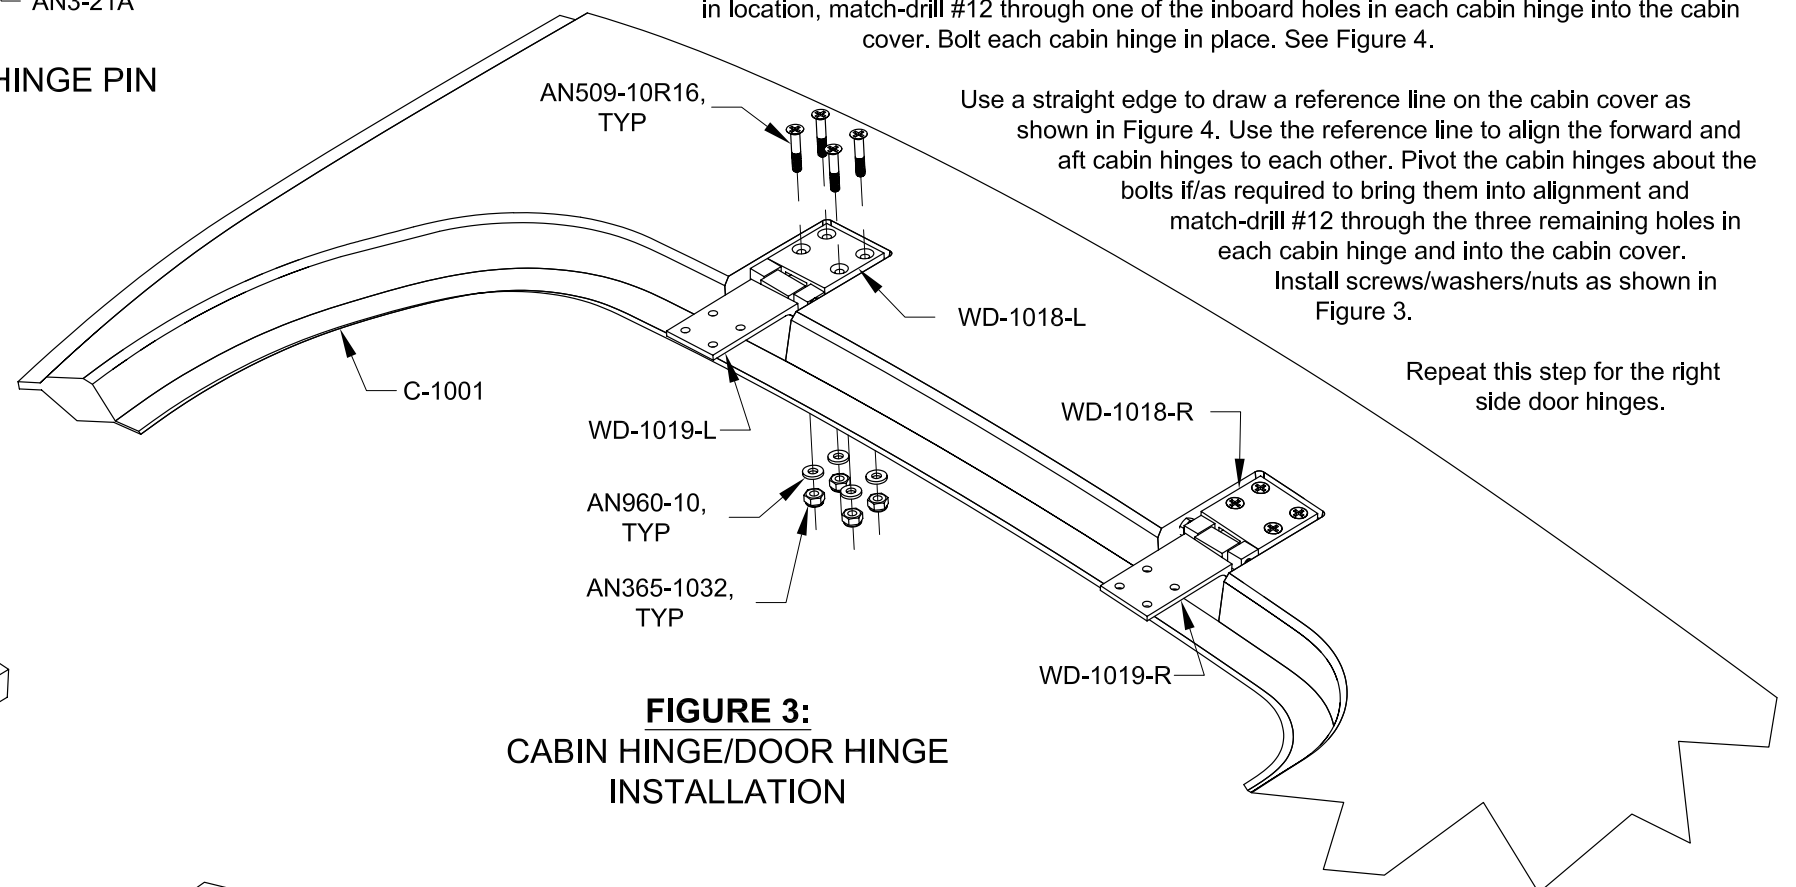
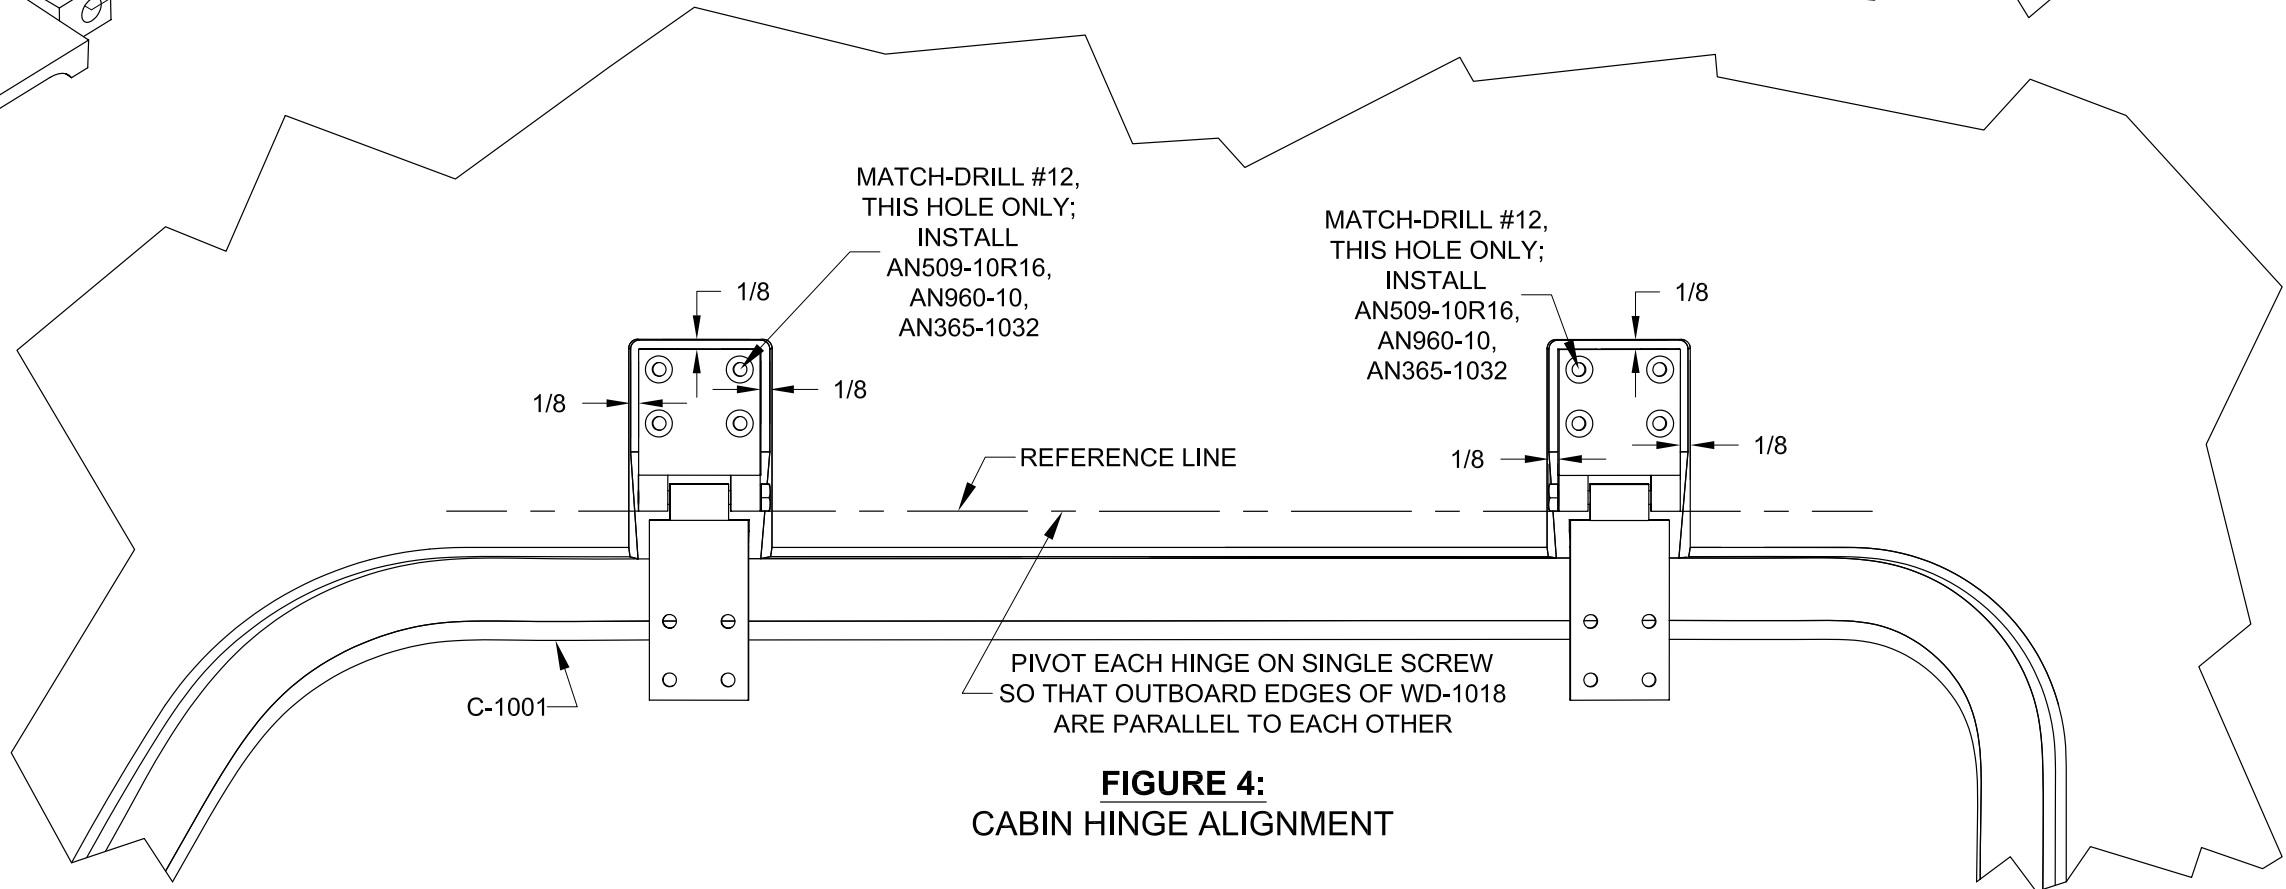

FIGURE 3: CABIN HINGE/DOOR HINGE INSTALLATION
FIGURE 4: CABIN HINGE ALIGNMENT
Step 3: Position the WD-1018-L Cabin Hinge/WD-1019-L Door Hinge subassembly in the forward pocket in the C-1001 Cabin Cover. Position the WD-1018-R Cabin Hinge/WD-1019-R Door Hinge subassembly in the aft pocket in the cabin cover. See Figure 3.
The WD-1018-L and -R Cabin Hinges are located on the cabin cover as shown in Figures 3 and 4. Use three .125 thick scrap aluminum spacers to locate each cabin hinge to the "walls" of the hinge pockets. With the cabin hinges held in location, match-drill #12 through one of the inboard holes in each cabin hinge into the cabin cover. Bolt each cabin hinge in place. See Figure 4.